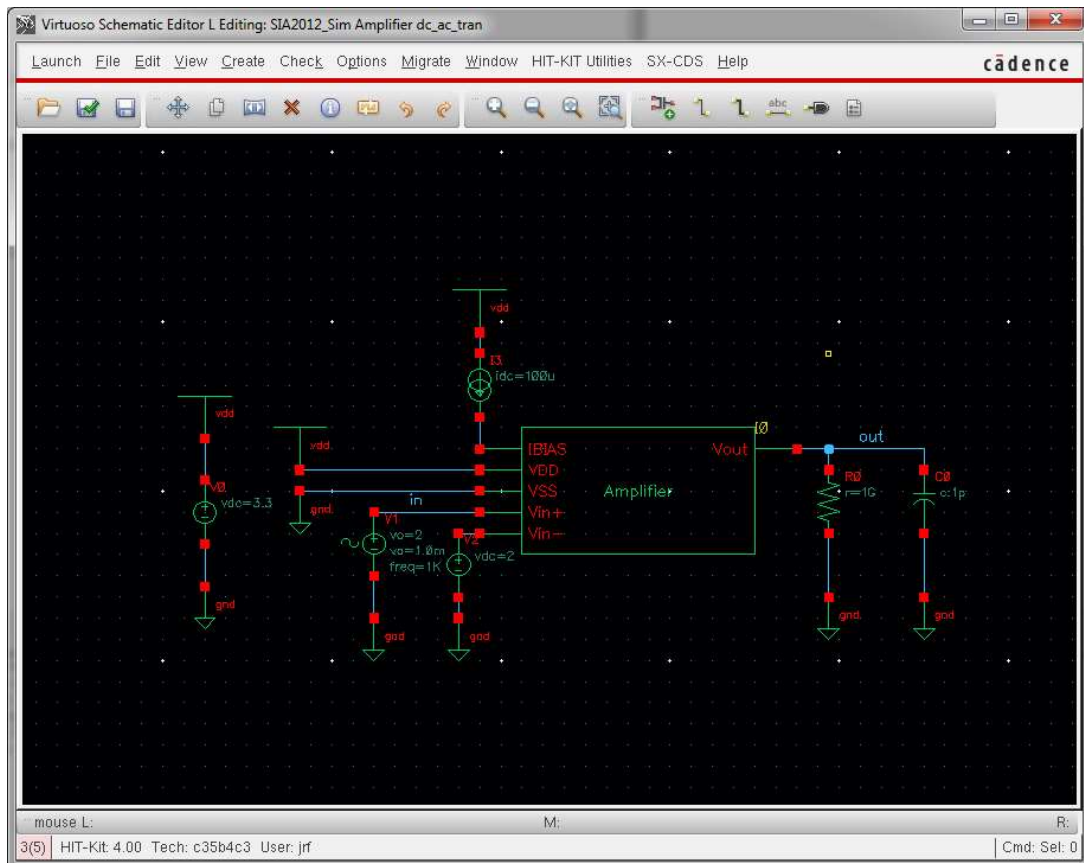

Fig. 6. Simulation Testbench
- c. Design the schematic in Fig. 6 (See the source properties in Fig. 7).